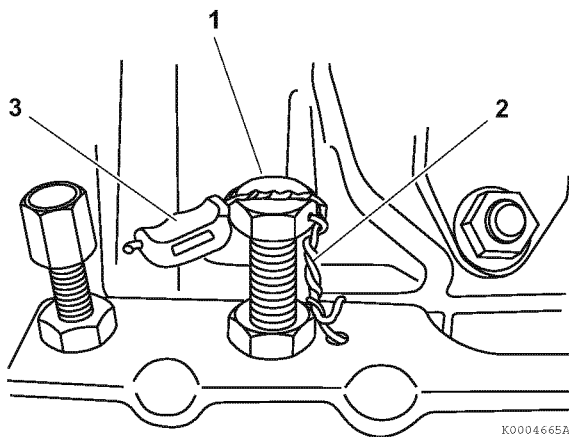

Figure 7-37
Should the high-idle adjustment bolt (1, **Figure 7-37**) be damaged and require replacement, or it is obvious that the high-idle adjustment has been tampered with, use the following procedure to replace and/or adjust the high-idle adjustment bolt.
3. After adjusting the engine speed to the correct RPM, install the tamper-proof wire (2, **Figure 7-37**).
4. After installing the wire, install and crimp the tamper-proof seal (3, **Figure 7-37**) onto the wire.